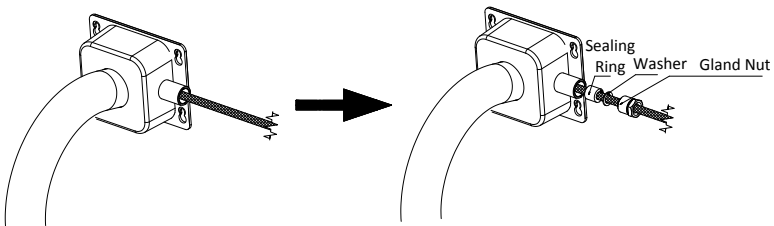

Figure 2-16 Seal the Cable Entry
- Seal the cable entry by routing the cables through the sealing ring, washer, and gland nut in order as shown in Figure 2-16.